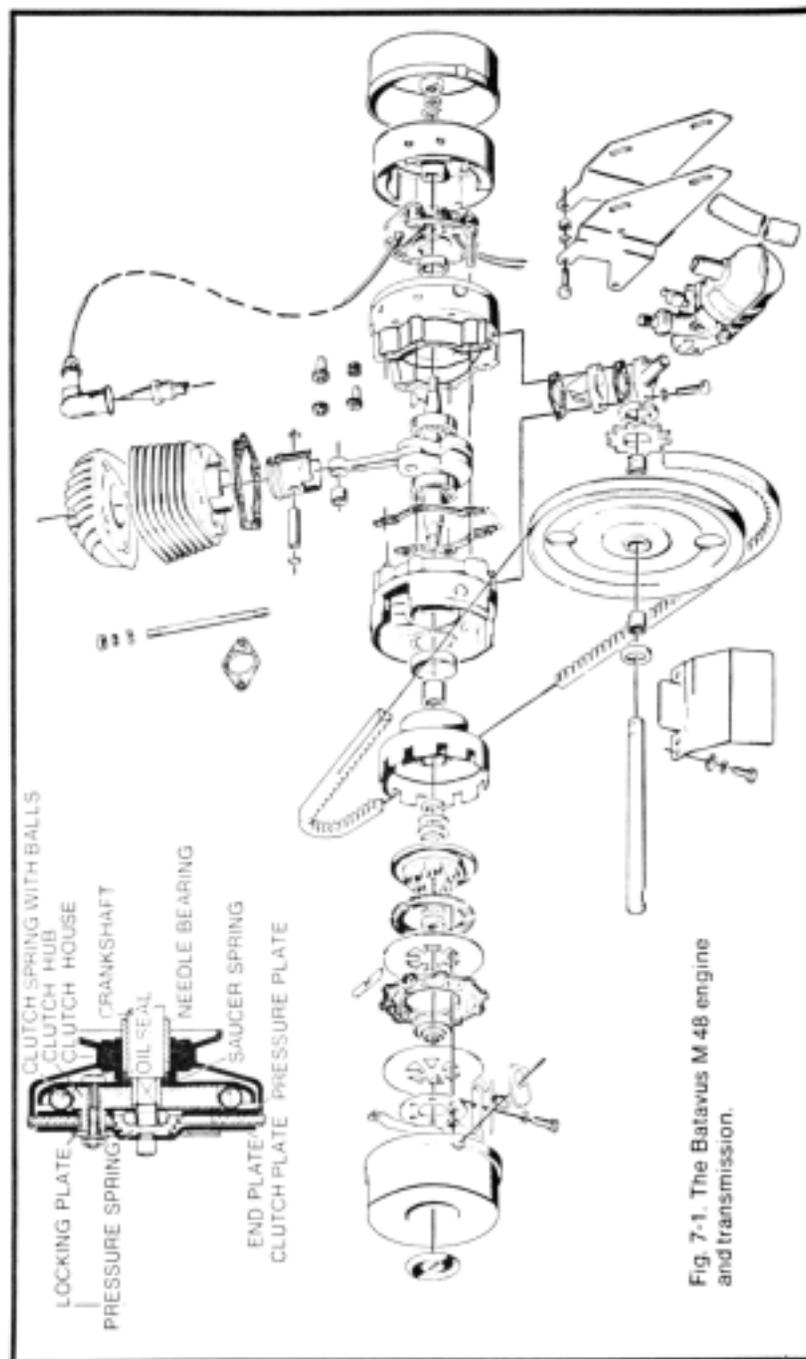

Fig. 7-1. The Batavus M48 engine and transmission.
**Operation.** The clutch hub, spring, pressure plate, and end plate turn with the crankshaft (Fig. 7-1). The "house," or drum and clutch plate, are connected to the rear wheel by a belt and chain. At low engine speeds the drum floats on the crankshaft, insulated from motion by the needle bearing. As speed increases, ball bearings packed into the clutch spring feel the tug of centrifugal force and move outward, stretching the spring in the process. Ramps on the outer edge of the clutch hub divert this outward motion; the balls push to the left against the pressure plate. While the plate turns at engine speed with the hub, its splines allow some axial movement, and the plate contacts the right-hand friction surface on the clutch plate. The drum begins to receive power. Continued motion of the balls forces the clutch plate to the right where it contacts the end plate. Since the end plate is bolted to the crankshaft, no further axial movement is possible; the clutch plate is sandwiched between the pressure and end plates. Full torque goes to the drum and, hence, to the back wheel.